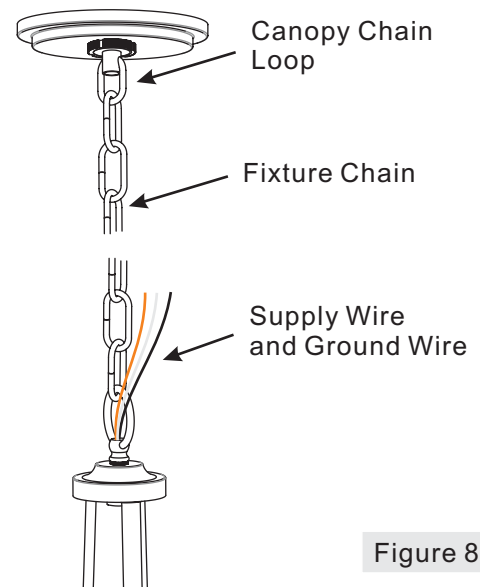

Figure 8
- A. Place the Glass Panels B (R) between two Bars inside of the Cage (S).
- B. (Refer to Figure 8) Locate the Slots on the Fixed Stay (T) over the Bar inside of the Cage (S). And then pull the Fixed Stay (T) up until the slots is caught in the beveled end of the Bar.
- A. Place the Shade (M) over the Socket, By using Socket Collar Tool (U), thread the Socket Collar (L) secure the Shade (M). Hand tighten until snug.